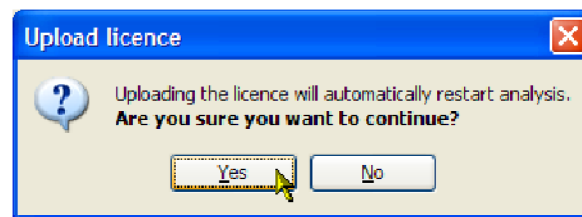

Figure 4: Upload license message box
- Click **Yes** to confirm the upload in the Upload License message box. (See Figure 4.)